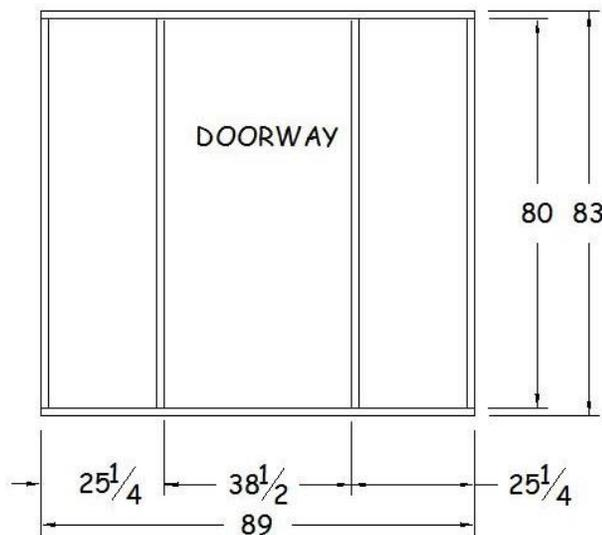

Figure 22-3. Front Wall Framing – One Req'd.
- a. Cut two pieces of 2x4 to 89" lengths. Pair them up as upper and bottom plates (one pair for each wall) and lay out stud locations as shown in Figure 22-3.